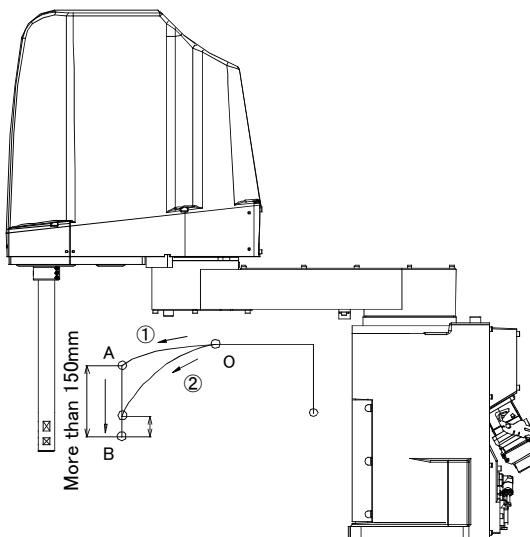

Fig.2-13 : Recommended path when positioning at the bottom edge of the Z axis
- 3) When positioning the work near the bottom edge of the Z axis, if no effectiveness is achieved in step "2)" above, perform operation ① (robot path: O → A → C). In the case of operation ② (robot path: O → B → C), residual vibration may occur. (Refer to Fig. 2-13.)